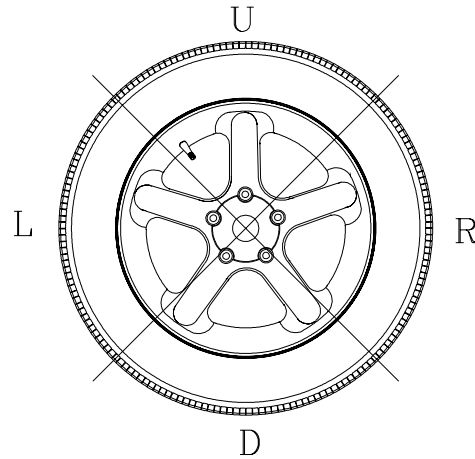

Figure 24
C. The wheel weight could have been placed at a wrong position. To check this, position the wheel at the correction position for the outer plane. If the wheel weight previously attached is in sector 'L' or 'R' (Fig.24), move the wheel weight up about 1" (2.54cm).